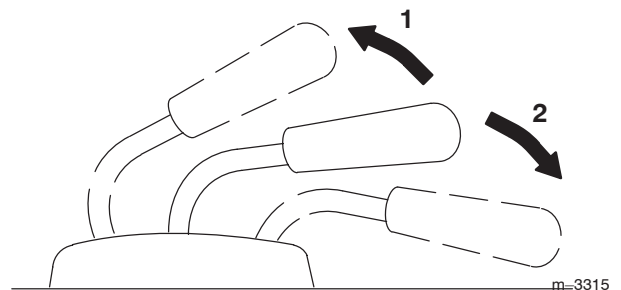

Figure 20
2. Pull the lift lever up to raise the attachment (Fig. 20).
2. Push the lift lever down to lower the attachment (Fig. 20).